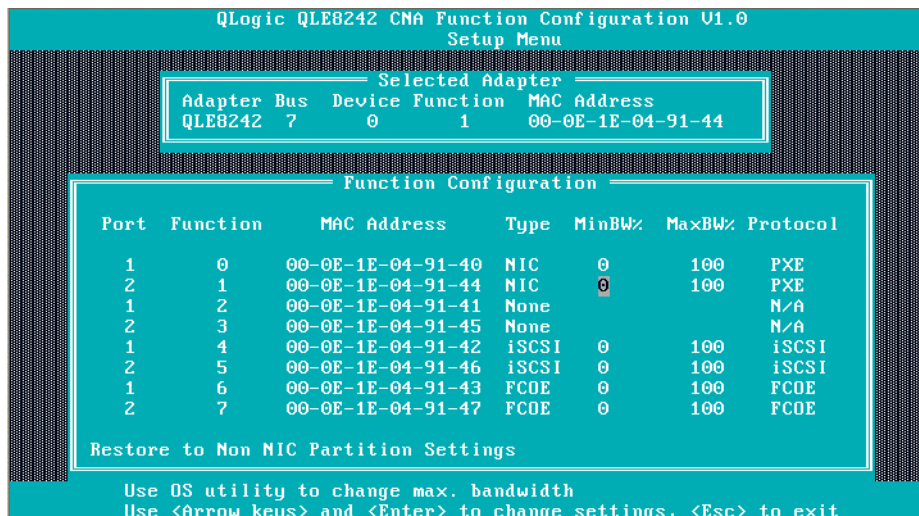

Figure 26: Function Configuration Screen
2. Select the adapter you want to manage on the QLogic CNA Function Configuration screen. The screen displays a list of functions available to the selected adapter (Figure 26).